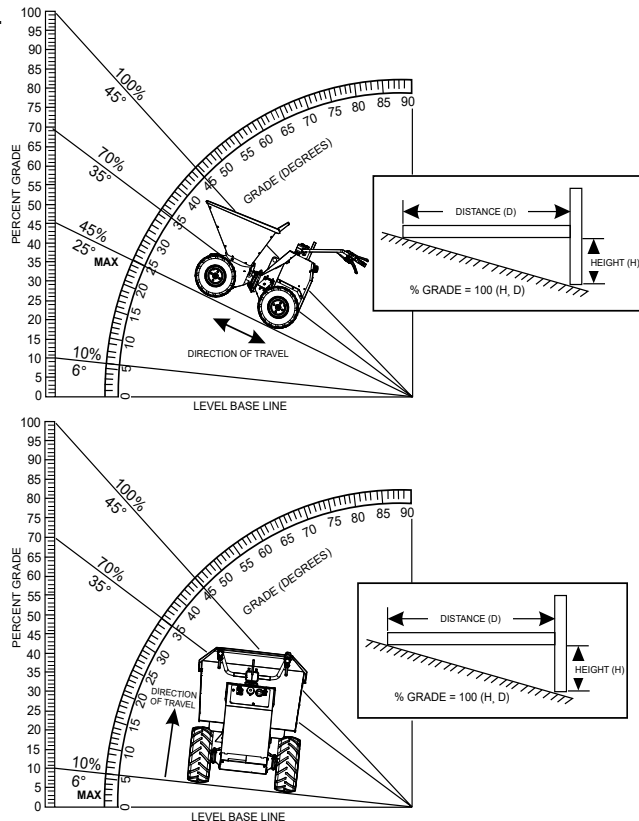

Figure 12. Determining Grade of Slope
1. When traveling on a slope, it is necessary to determine the grade of the path. The TB11G/E buggies can travel up or down slopes not exceeding 25° (Figure 12) . **DO NOT** travel on steeper slopes.
To determine the % grade of your path of travel, use the formula and graph in Figure 12.